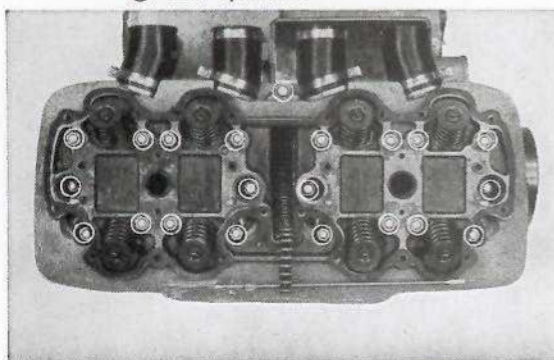
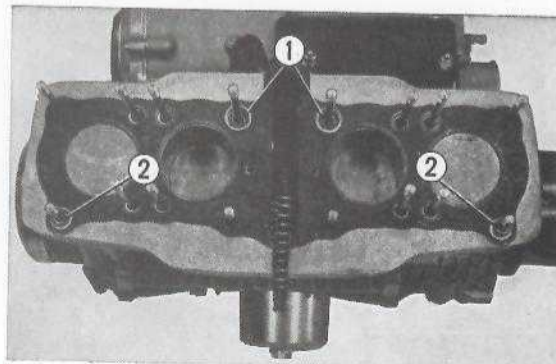
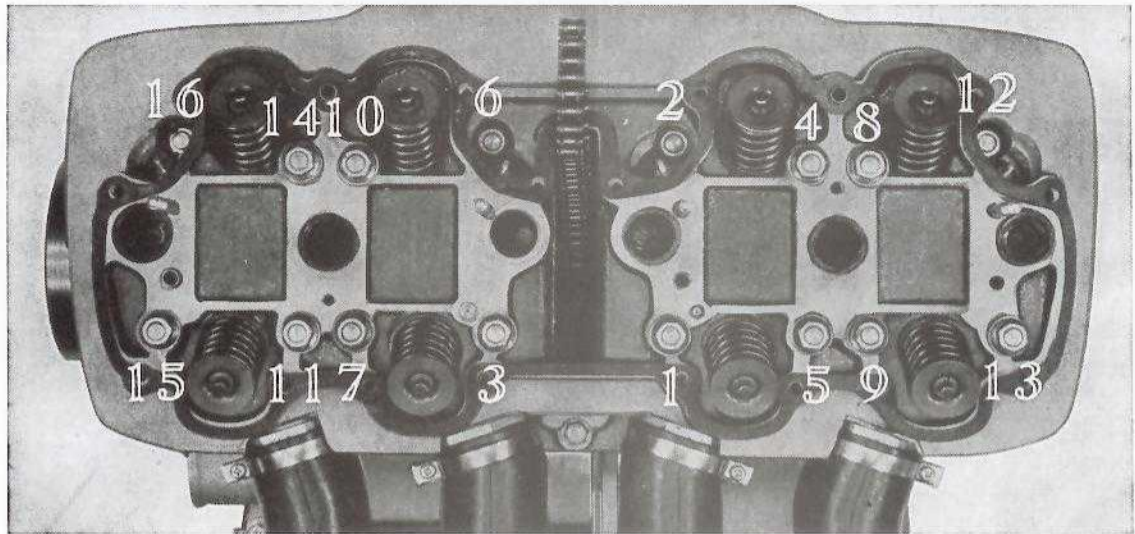

Fig. 3-27 Removing cylinder head mounting nuts and bolts
Fig. 3-37 ① "O" rings
Fig. 3-38 Tightening sequence
8. Remove the sixteen cylinder head mounting nuts, the five 6 mm mounting bolts and then separate the cylinder head from the cylinder. Use a special tool (Tool No. 07906-3230000) to loosen the 6 mm mounting bolts on both sides. Loosening sequence of the mounting nuts is performed in the reverse sequence indicated Fig. 3-38 on page 67. (Fig. 3-27)
3. On the cylinder gasket flange, assemble the two dowel pins, two O rings and the cylinder gasket, and then mount the cylinder head followed by installing and torquing the mounting nuts and bolts in accordance with Fig. 3-38. Torqued the nuts to 13.7~15.2 ft-lbs. (1.9~2.1 kg-m.) (Fig. 3-37, 38)
On the cars Engine No. 2352923 and after, a collar and oil seal (rubber) are inserted into between the cylinder and head at the points 4, 8, 5, 9, 14, 10, 11 and 7 in Fig. 3-38. **Note: Install the oil seal onto the collar and insert them into the attaching hole in the cylinder.**